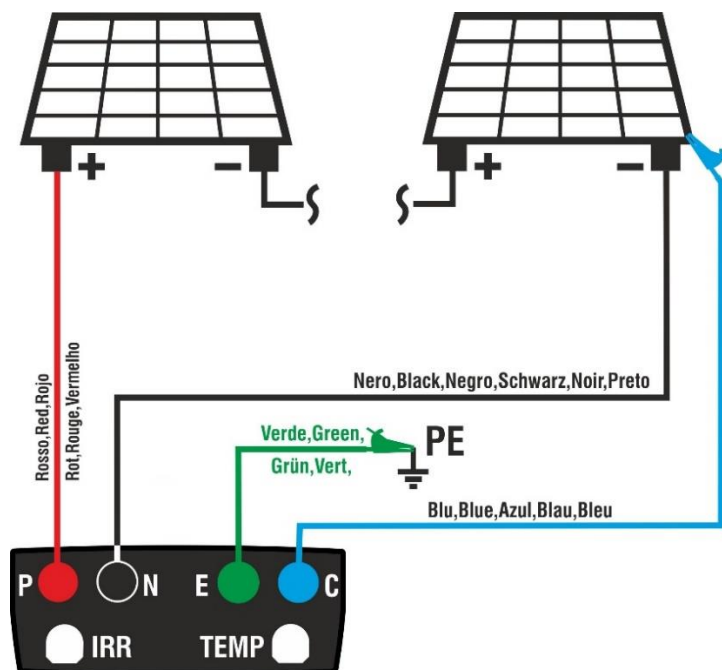

Fig. 11: Connection for IVCK tests without remote unit and without irradiance
8. Connect the instrument to the PV module/string being tested and to the main earth node of the system, and to the metal masses connected to earth as shown in Fig. 11. In particular, connect the negative output pole of the PV module/string to terminal N and the positive output pole of the PV module/string to terminal P.